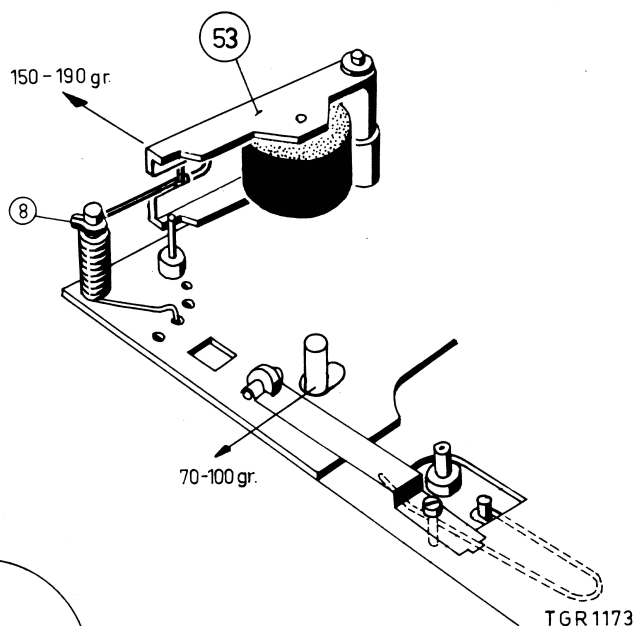

Fig. 3
In the case of insufficient torque of the winding friction first, the pressure force of the pulley against the right-hand turntable should be measured, as indicated in Fig. 3. Too high a pressure force will considerably decrease the torque of the winding friction (120-150 gr.).
- The pressure of the pulley of the friction against the right-hand turntable must be  $85 \pm 159$  gr., see Fig. 3.
- . The force needed for pulling the pressure roller clear of the capstan, must be between  $170 \pm 20$  gr. see Fig. 3.